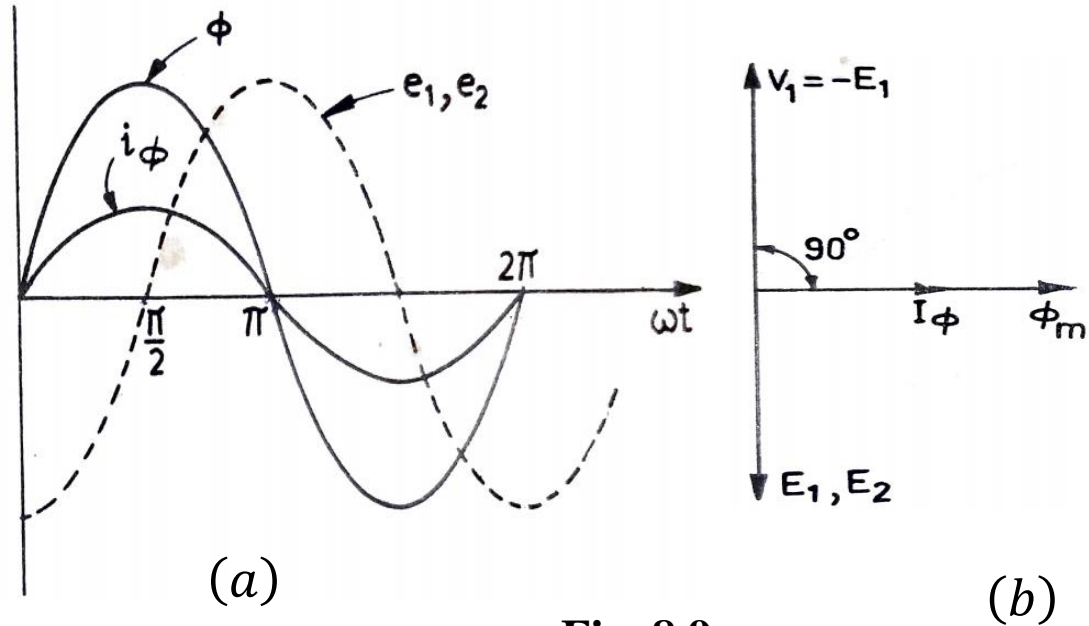

Fig. 8.9
- ✓ The waveforms of ϕ , I_ϕ , e_1 and e_2 are drawn in **Fig. 8.9** (a). The phasor diagram of an ideal transformer at no load is drawn in **Fig. 8.9** (b).
- ✓ At time $t = 0$, the flux is zero, therefore, it is drawn horizontally in **Fig. 8.9** (b).
- ✓ It is seen from **Fig. 8.9** that e.m.f.s. E_1 and E_2 lag by 90° the mutual flux ϕ_m that induces them. The applied voltage V_1 leads the flux ϕ_m by 90° .